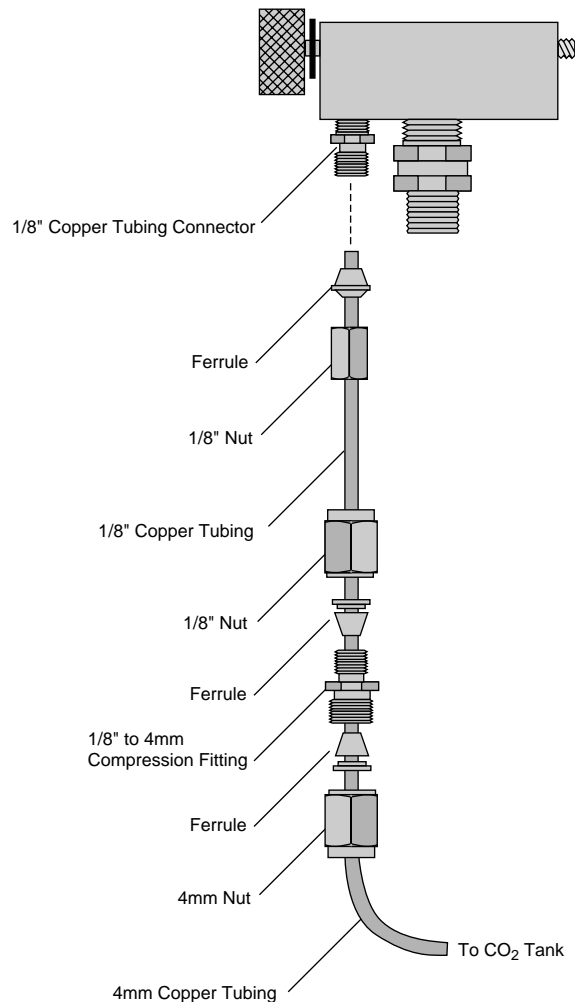

Figure 2. Use the compression fitting to connect 1/8" and 4mm tubing.
2. Use the 1/8" to 4mm compression fitting to connect the 1/8" and 4mm tubing, as shown in Figure 2. Be sure to orient the ferrules correctly; the narrow tapered end of each ferrule must be oriented *toward* the compression fitting. Tighten the nuts on the compression fitting until snug, plus 1 1/4 turn.